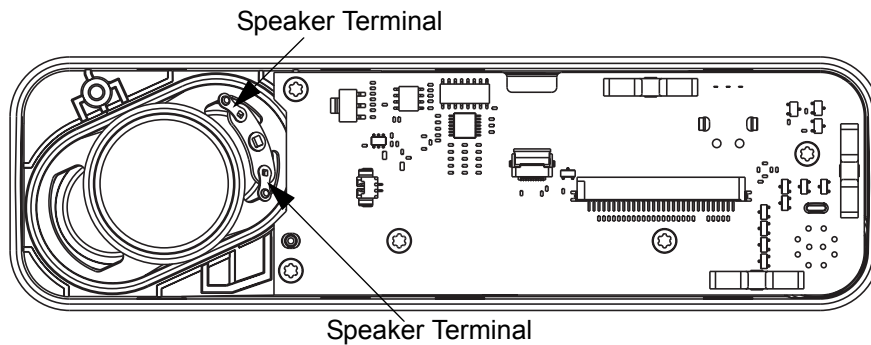

Figure 5-27 Speaker Assembly
a. Place the speaker in the control head assembly as shown in Figure 5-27.